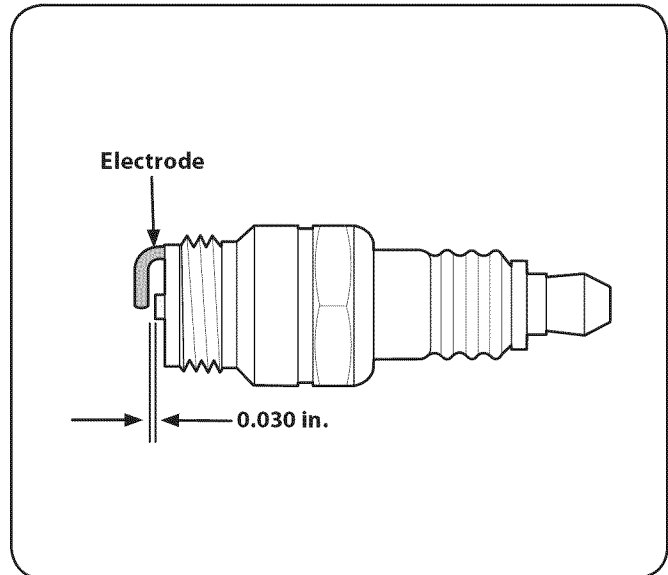

Figure 6-5
- Measure the plug gap with a feeler gauge. Correct as necessary by bending side electrode. See Fig. 6-5. The gap should be set to 0.030 in.